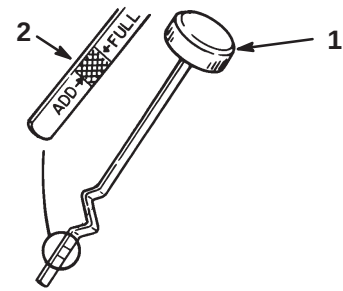

Figure 16
3. Unscrew the oil dipstick and wipe the metal end clean (Fig. 16).